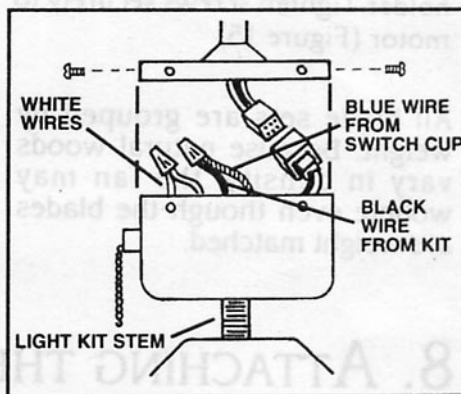

FIG. 18
Step 3. Feed black and white wires from light kit through hole in bottom of switch cup and thread stem of light kit into same hole until snug. (Fig.18)
Step 4. Locate the Blue and White wires inside the switch cup marked "for light" and remove the plastic wire nuts. Connect the blue wire to the black wire from the light kit using the plastic wire nuts. Next connect the white wires together. (Fig.18)
Step 5. Tuck all wires into the switch cup and reinstall the switch cup onto the fan. (Fig.18)